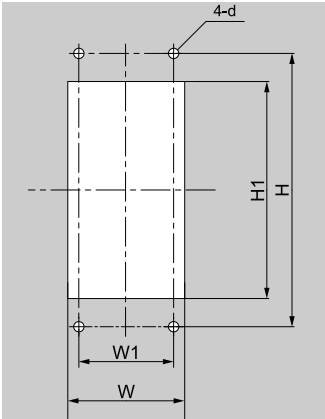

Figure 2.15 Panel Cut-Out Dimensions to Attach Inside Control Panel
1. Use the dimensions in Figure 2.15 and Table 2.11 to cut an opening in the control panel for the keypad.